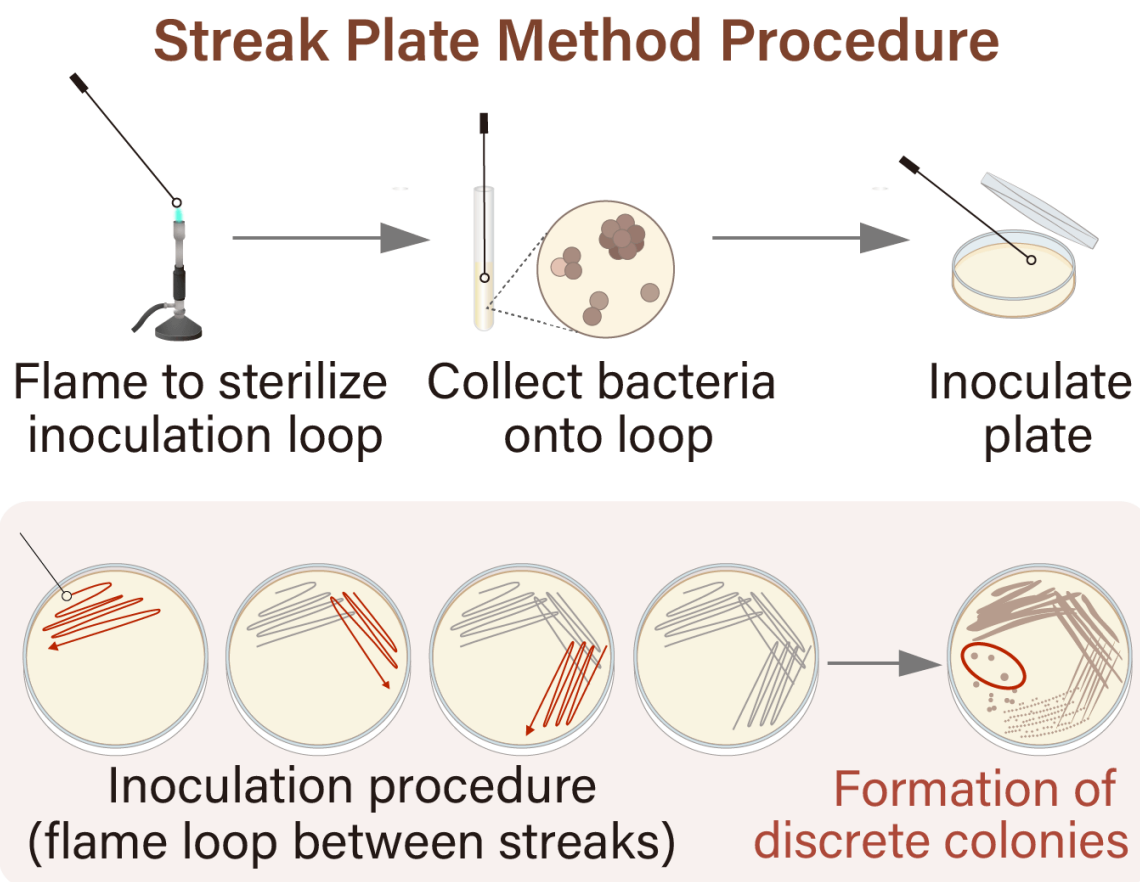

Figure 2.1 Steps of streaking the quarters of an agar plate.
7. Repeat step 6 for the third and fourth quarters of the agar plate (Figure 2.1).